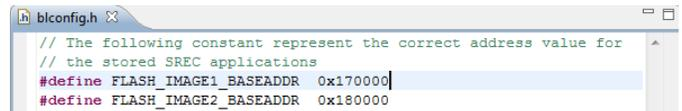

Fig. 6. The `blconfig.h` file.
- We updated the flash memory offsets for the stored SREC applications in the `blconfig.h` file (figure 6).